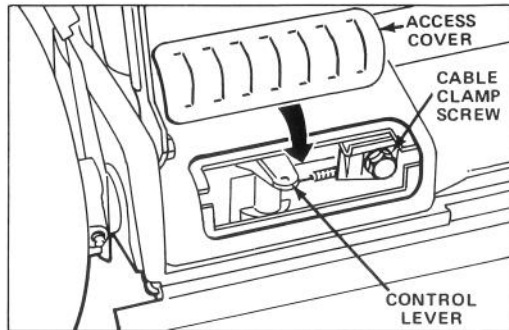

Figure 26
2. Remove access cover from rear of mower housing (Fig. 26).
4. **ADJUSTMENT** (Fig. 26) — Loosen cable clamp screw until cable conduit slides. Push shift lever toward cable clamp screw. Push cable to the right to remove slack and tighten clamp screw.
5. Remove access cover on mower housing and clean around gear box. (Fig. 26).